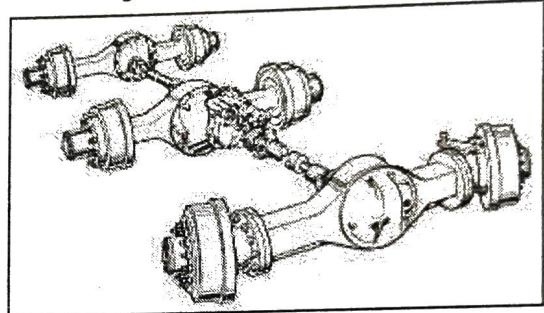

Fig. 4.49 : Tandem drive axle
3. A **Tandem Axle** is a group of two or more axles situated close together. Vehicles used in mining and tractor applications are often required to carry extremely heavy loads, such configuration provides a greater weight capacity than a single axle. This is shown in Fig. 4.49.